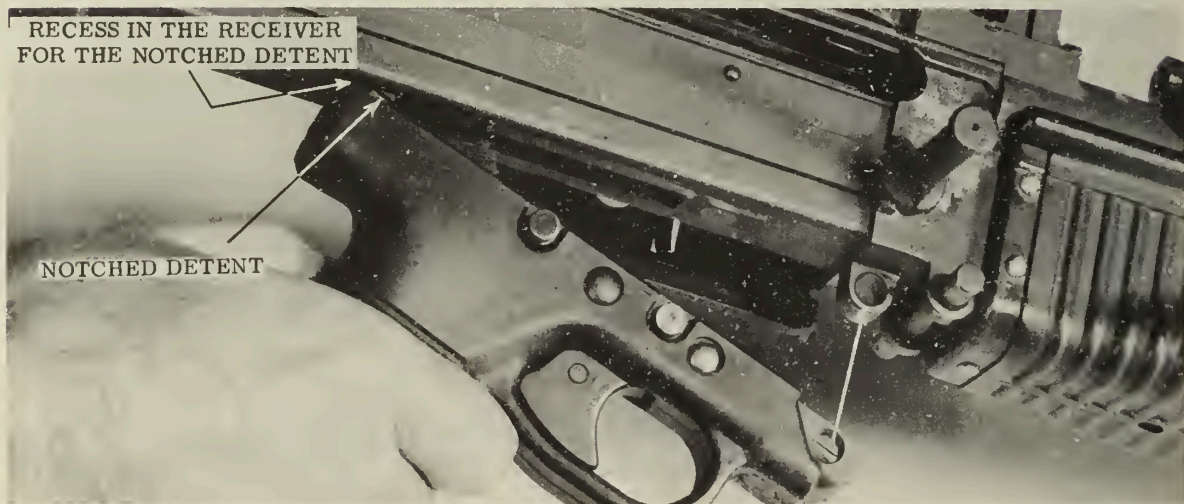

Figure 17. --Replacing the Trigger Housing.
(1) Insert the notched detent on the rear of the trigger housing into its recess in the bottom of the receiver. (See fig. 17.)
(2) Rotate the front of the trigger housing upward and align its holes with those in the trigger housing mounting bracket on the receiver. (See fig. 17.)
(3) Replace the front trigger housing holding pin from left to right.